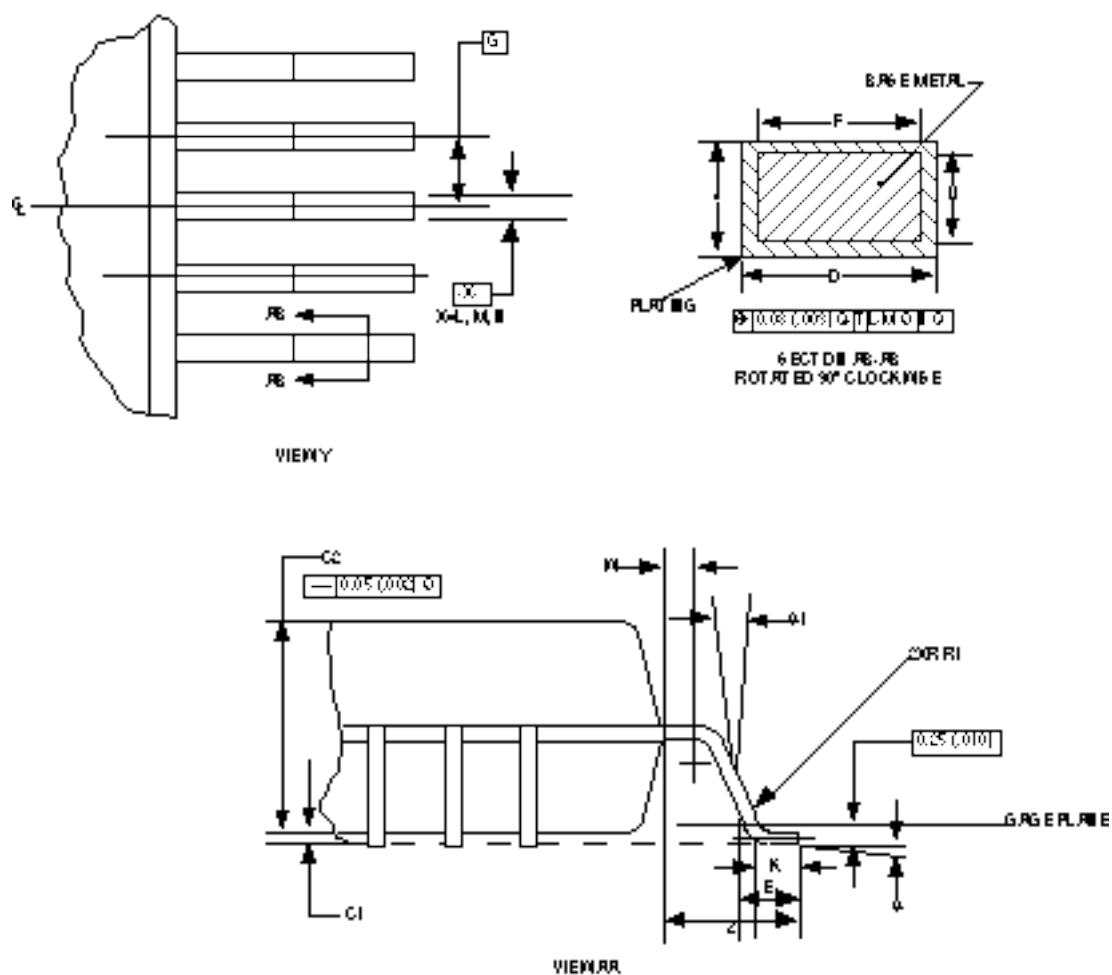

Figure 4-2 FCS Controller Package Drawing Page 2
**4.5 FCS Controller Package Drawing (1)****Figure 4-2 FCS Controller Package Drawing Page 1**